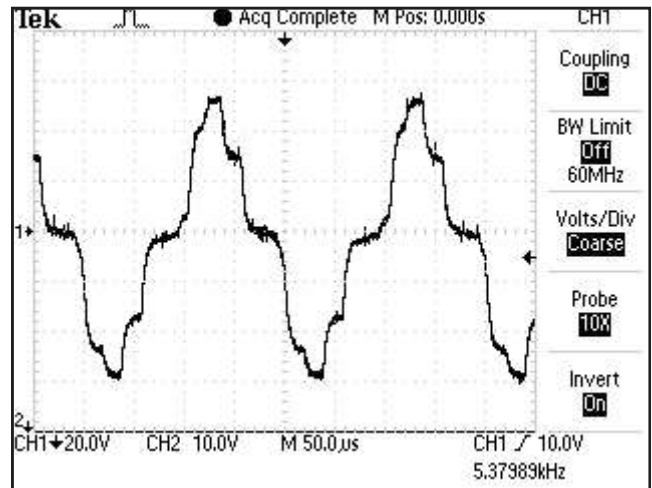

FIGURE 4.2
A. IFC (Interferential) Traditional (4 Pole)- Figure 4.2 (Vectra Genisys, Intellect Legend XT, and Intellect Vet)